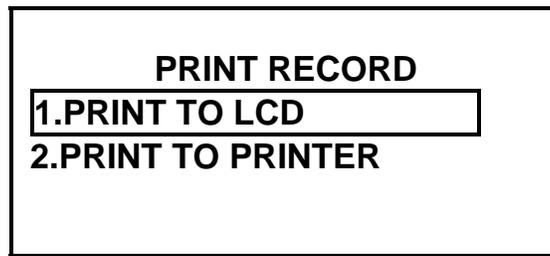

Figure 43.0 Print Record Menu
- b. **Origin:** This menu is displayed after the operator selects menu option 2 from the “Print Record Menu” (Figure 43.0 Print Record Menu).